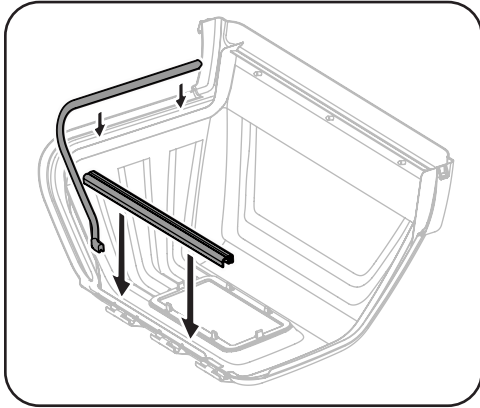

Figure 4-14
- If not already installed, apply seals (720-05151) and (720-05152A) to the underside of the upper grass catcher cover (731-12348A) as shown below. See Figure 4-14.